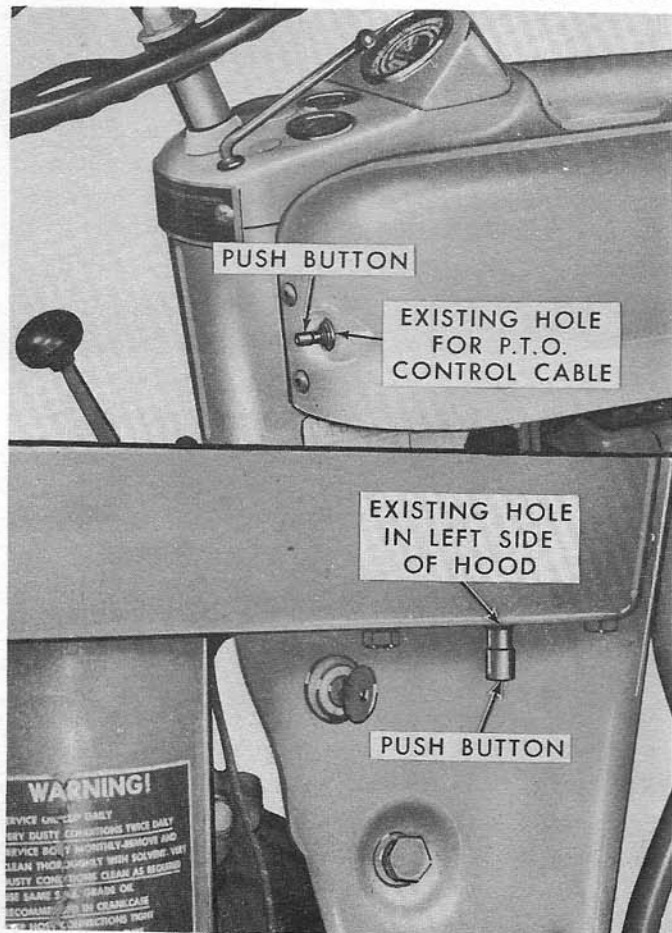

Figure 27
- c. Attach the wire lower clip (3) to the engine-to-transmission case bolt. Attach the wire upper clip (2) to the steering housing with the right forward steering housing-to-transmission bolt.
- d. Working through the opening in the top of the hood, insert the push button switch in the hole in the panel, Figure 27, and secure with the knurled nut.